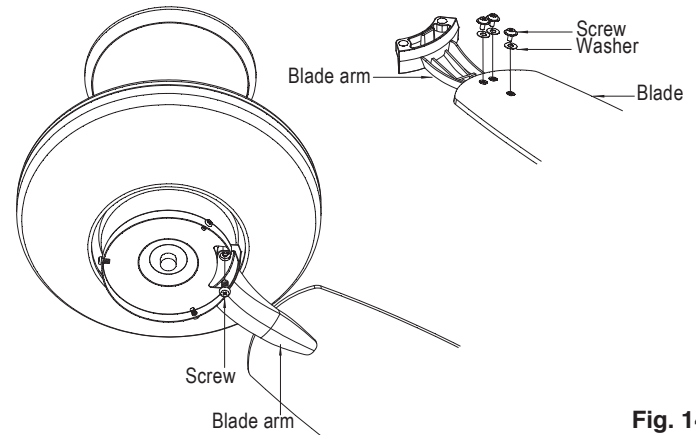

Fig. 14
**Step 1.** Attach the blade to the blade bracket using the screws and washers as shown in Figure 14. Start screw into bracket. Repeat for the two remaining screws.
**Step 3.** Fasten blade assembly to motor using blade arm screws. (Fig. 14)